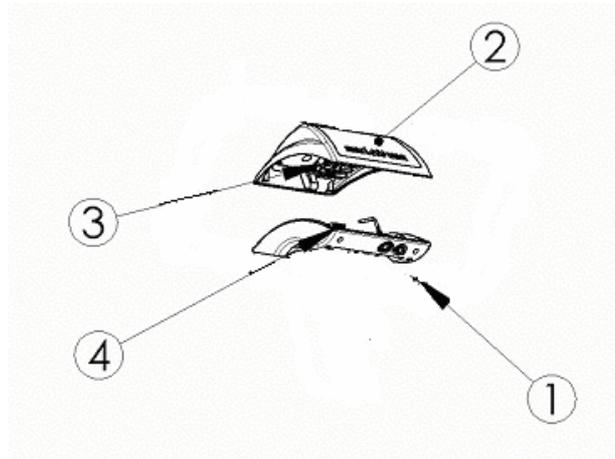

Fig. 3: Remove the controller top
1. Unscrew the 4 Elot PT Screws of the Ergometer-controller on bottom part side (Fig. 3: Remove the controller top, item 1)
2. Lift the Ergometer-controller top (Fig. 3: Remove the controller top, item 2) a little.
3. Pull the connector of the flatcable (Fig. 3: Remove the controller top, item 4) out of the header (Fig. 3: Remove the controller top, item 3)